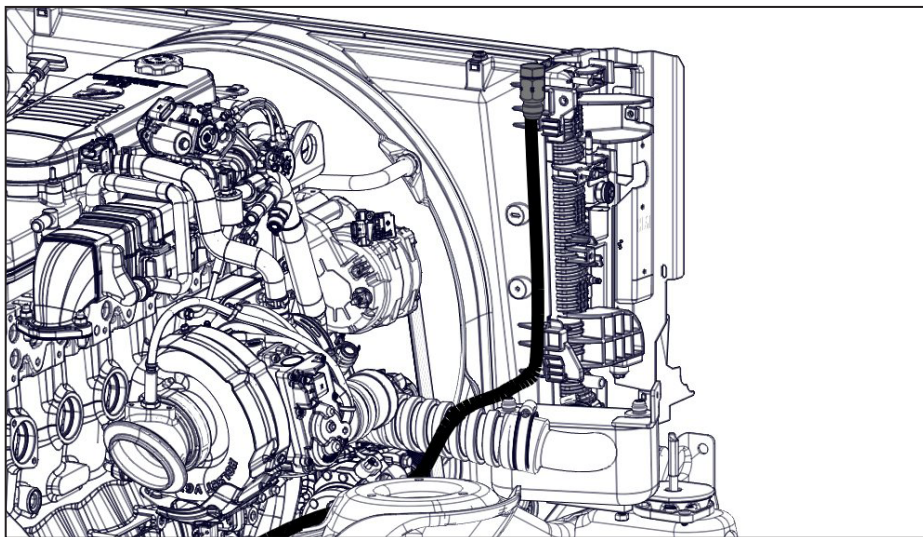

Figure 62 — Install oil fill hose
- ☐ From the oil cooler, route the 3/4 in hose up toward the top of the radiator (Figure 62).